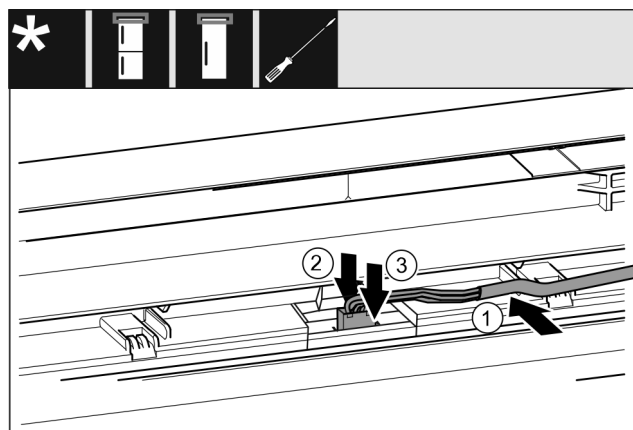

Fig. 46 Fridge/freezer combinations / freezers / refrigerators*
- ▶ Insert the cable Fig. 46 (1) into the guide in the top door.*
- ▶ Push the latching tab Fig. 46 (2) backwards.*
- ▶ Engage the plug Fig. 46 (3)*